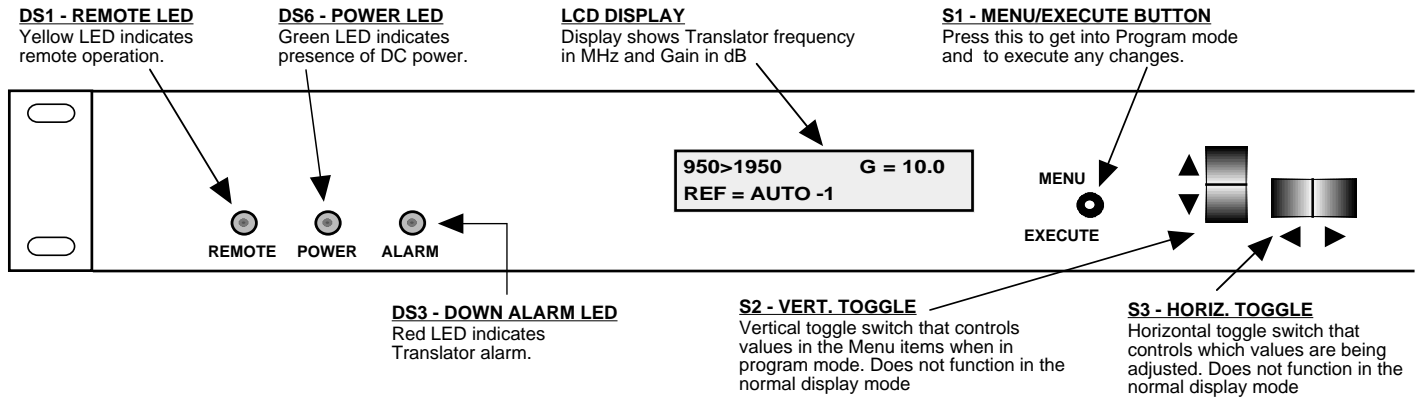

FIGURE 2.3 2083-0919 Front Panel Controls and Indicators
5. Be sure DS6 (green, DC Power) is on and DS (red, Alarm) is off (Figure 2.3).
Alarm indications appear on the LEDs (See figure 2.3).